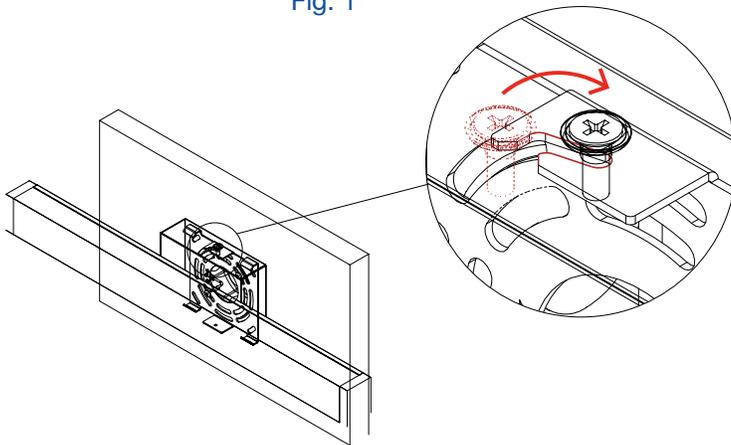

Fig. 3
3. Align the screw on the top of the fixture base so that it slides into the slot on the junction box plate. Tighten screw (Fig. 3).